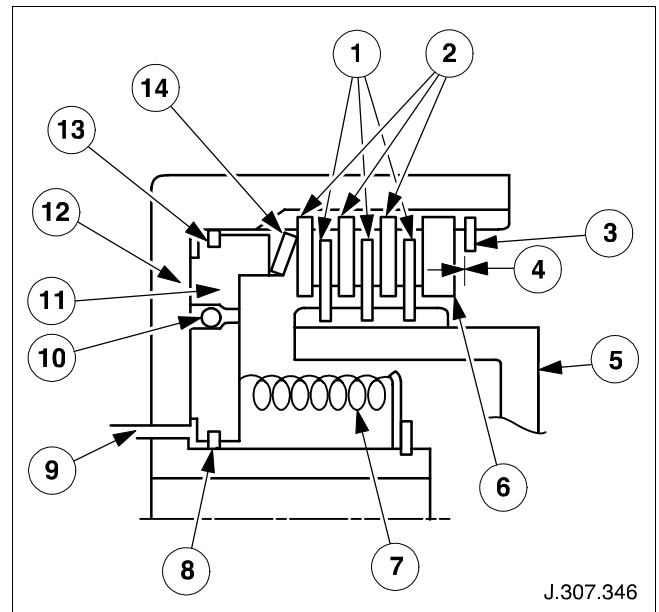

Fig. 39 Clutch
- The transaxle has four built-in wet-type multiple disc clutches (the low clutch, the high clutch, the reverse clutch, and the direct clutch). Typical clutch structure and operation are shown in **Fig. 39**.